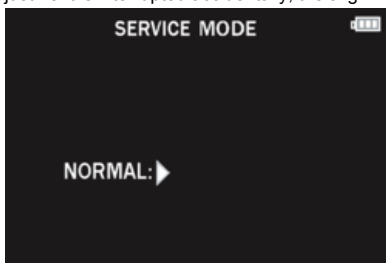

Fig. 3-5
- Do not press any buttons/keys until the default menu (Fig.3-5) is displayed on the LCD monitor. Otherwise, adjustment data may not be stored properly.